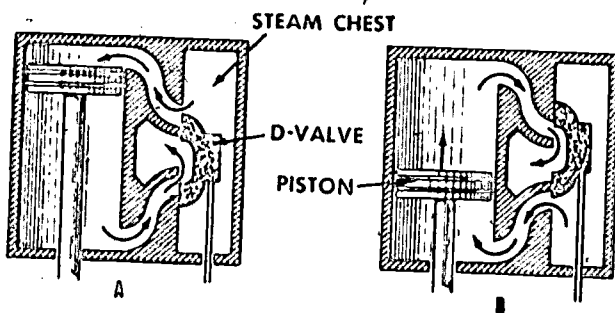

Figure 4C.-Operating principle of D-shaped slide valve of a reciprocating pump.
- 4-55. The D-valve in the pump, figure 4C is moved up and down by the